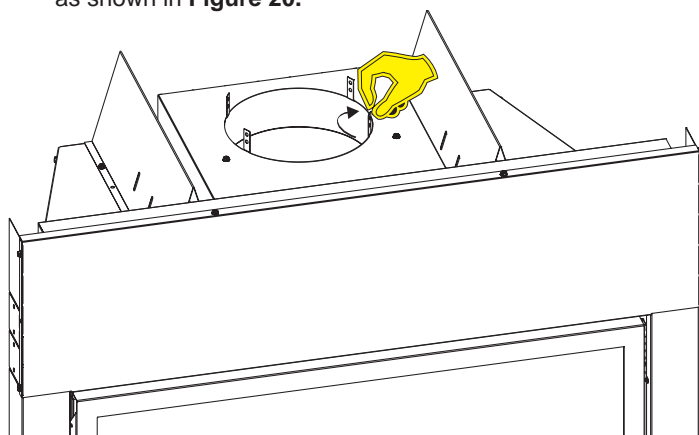

Figure 20
1. Hand bend the tabs up on the Outer Wrapper Top Assembly as shown in **Figure 20**.